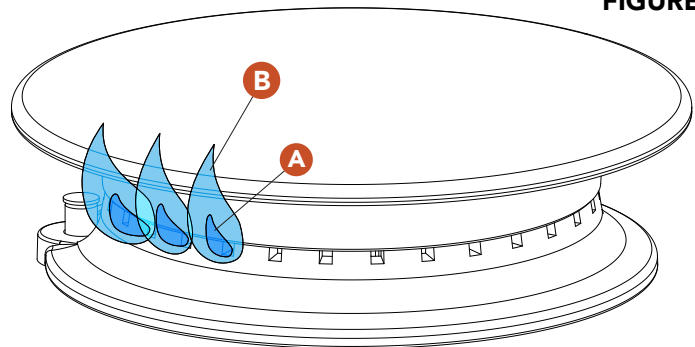

FIGURE 20
- On HIGH, the inner cone (Figure 20:A) should be approximately 1/2 inch long.
- On HIGH, the outer cone (Figure 20:B) should be approximately 1 1/4 inches high.